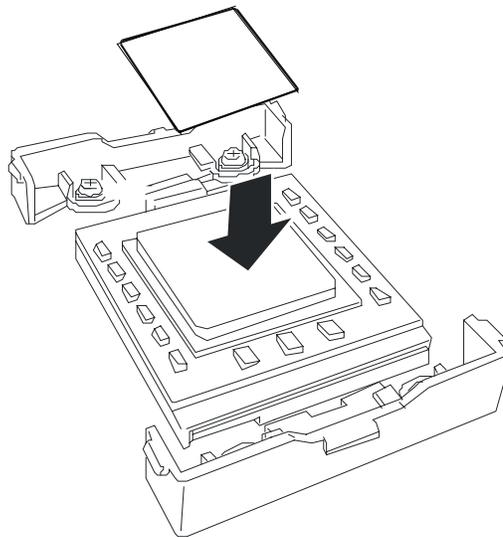

Figure 4-10. Installing the Thermal Cooling Sheet
- 13.** Very carefully apply the thermal interface material (heat radiation sheet) on top of the processor so that it is completely covered. See Figure 4-10.